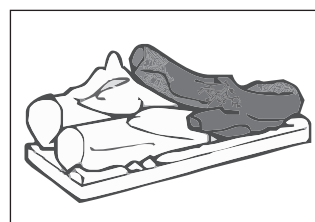

FIG 24
- c) Place log #3 on single right front pin, ensure fork locates over log #2. Refer **FIG 24**.